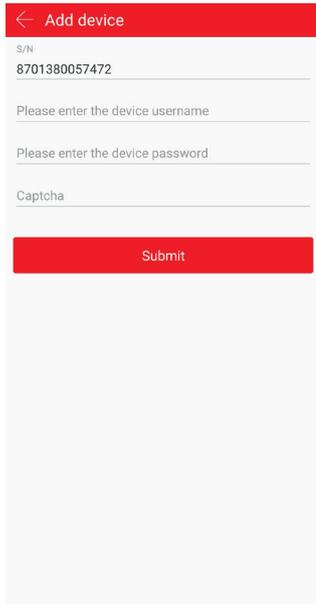

Fig.27
- After scanning or manually entering the recorder's serial number, a window will appear as in Fig. 27. Enter the user name and the password used for the recorder and the Captcha code printed on the sticker at the bottom of the recorder. Click on "Confirm".